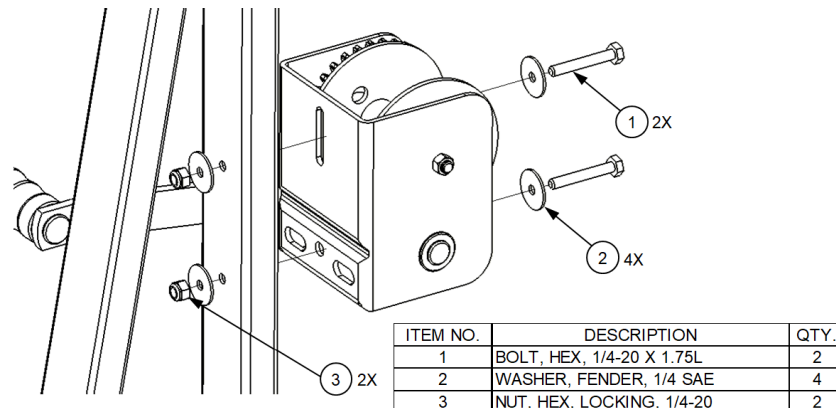

Figure 4
Winch Installation (Figure 4)
3. Position the Winch and insert hardware as shown in figure 4.